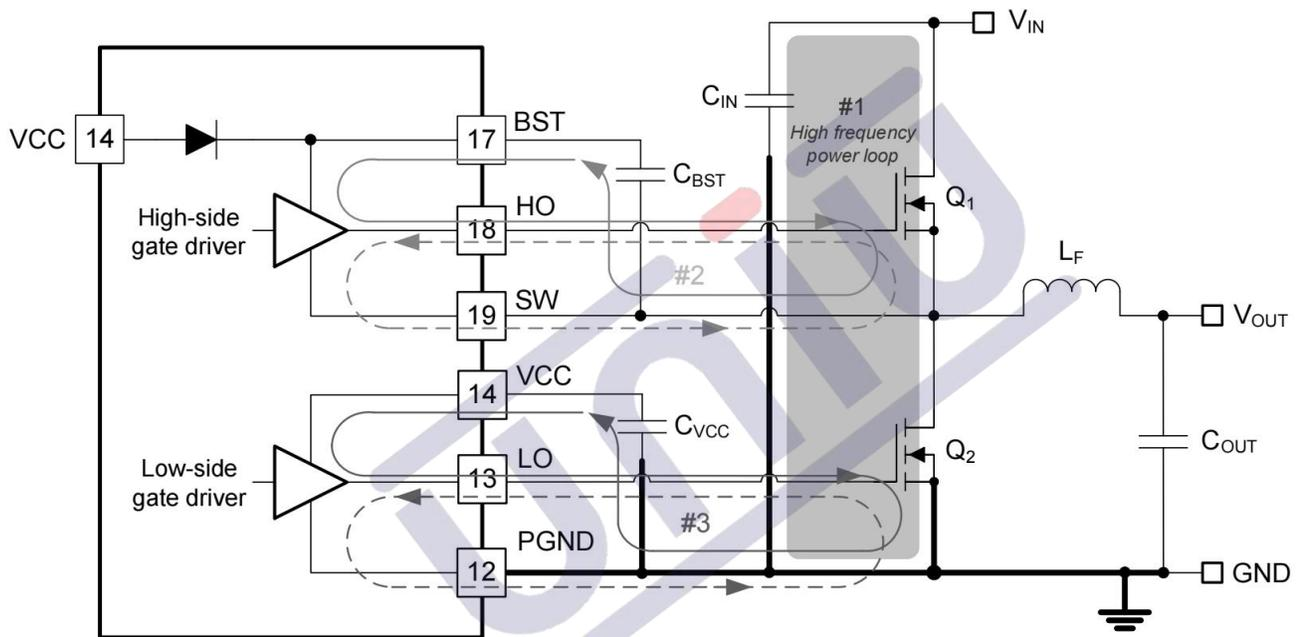

Figure 70. DC/DC Regulator Ground System With Power Stage and Gate Drive Circuit Switching Loops
Proper PCB design and layout is important in a high-current, fast-switching circuits (with high current and voltage slew rates) to assure appropriate device operation and design robustness. As expected, certain issues must be considered before designing a PCB layout using the U3401/2. The high-frequency power loop of the buck converter power stage is denoted by #1 in the shaded area of Figure 70. The topological architecture of a buck converter means that particularly high di/dt current flows in the components of loop 1, and it becomes mandatory to reduce the parasitic inductance of this loop by minimizing its effective loop area. Also important are the gate drive loops of the low-side and high-side MOSFETs, denoted by 2 and 3, respectively, in Figure 70.
- 1) Loop #1: The most important loop to minimize the area of is the path from the input capacitor(s) through the high- and low-side MOSFETs, and back to the capacitor(s) through the ground connection. Connect the input capacitor(s) negative terminal close to the source of the low-side MOSFET (at ground). Similarly, connect the input capacitor(s) positive terminal close to the drain of the high-side MOSFET (at VIN). Refer to loop #1 of Figure 70.
5. The SW pin connects to the switch node of the power conversion stage and acts as the return path for the high-side gate driver. The parasitic inductance inherent to loop #1 in Figure 70 and the output capacitance (C_{OSS}) of both power MOSFETs form a resonant circuit that induces high frequency (>100 MHz) ringing on the SW node. The voltage peak of this ringing, if not controlled, can be significantly higher than the input voltage. Ensure that the peak ringing amplitude does not exceed the absolute maximum rating limit for the SW pin. In many cases, a series resistor and capacitor snubber network connected from the SW node to GND damps the ringing and decreases the peak amplitude. Provide provisions for snubber network components in the PCB layout. If testing reveals that the ringing amplitude at the SW pin is excessive, then include snubber components as needed.
Loop2:high-side MOSFET, Q_1 . During the high-side MOSFET turn-on, high current flows from the bootstrap (boot) capacitor through the gate driver and high-side MOSFET, and back to the negative terminal of the boot capacitor through the SW connection. Conversely, to turn off the high-side MOSFET, high current flows from the gate of the high-side MOSFET through the gate driver and SW, and back to the source of the high-side MOSFET through the SW trace. Refer to loop #2 of Figure 70.
Loop3:low-side MOSFET, Q_2 . During the low-side MOSFET turn-on, high current flows from the VCC decoupling capacitor through the gate driver and low-side MOSFET, and back to the negative terminal of the capacitor through ground. Conversely, to turn off the low-side MOSFET, high current flows from the gate of the low-side MOSFET through the gate driver and GND, and back to the source of the low-side MOSFET through ground. Refer to loop #3 of Figure 70.